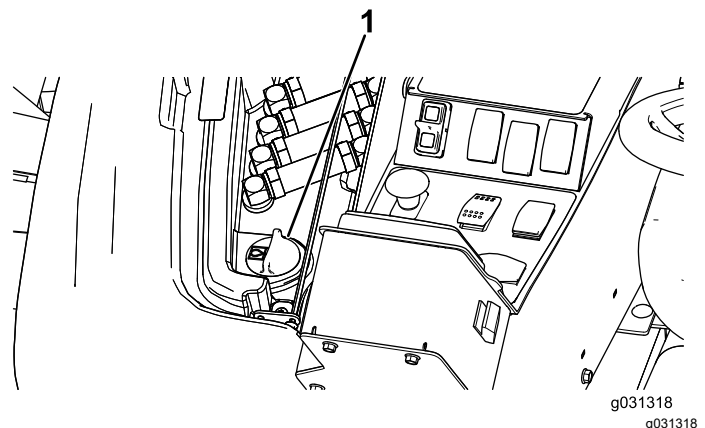

Figure 132
2. On the right side of the machine, raise the access cover to expose the hydraulic-tank cap (Figure 132).
3. Clean the area around the filler neck and cap of the hydraulic tank (Figure 132).